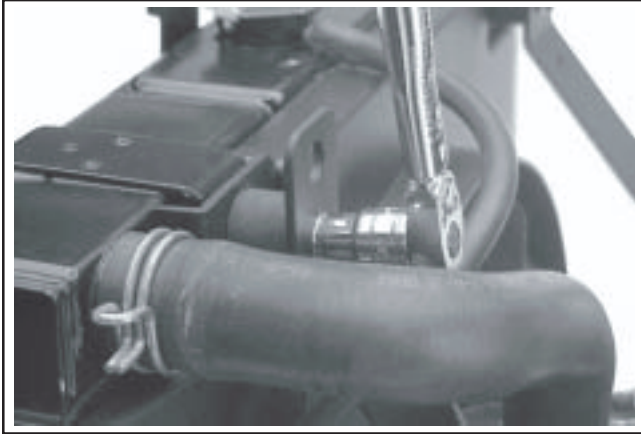

Figure 11-118. Torquing Top Nuts on Upper Brackets.
8. If the two flange nuts securing the upper brackets to the top radiator mounts were loosened, torque to **9.9 N·m (88 in. lb.)**. See Figure 11-118.